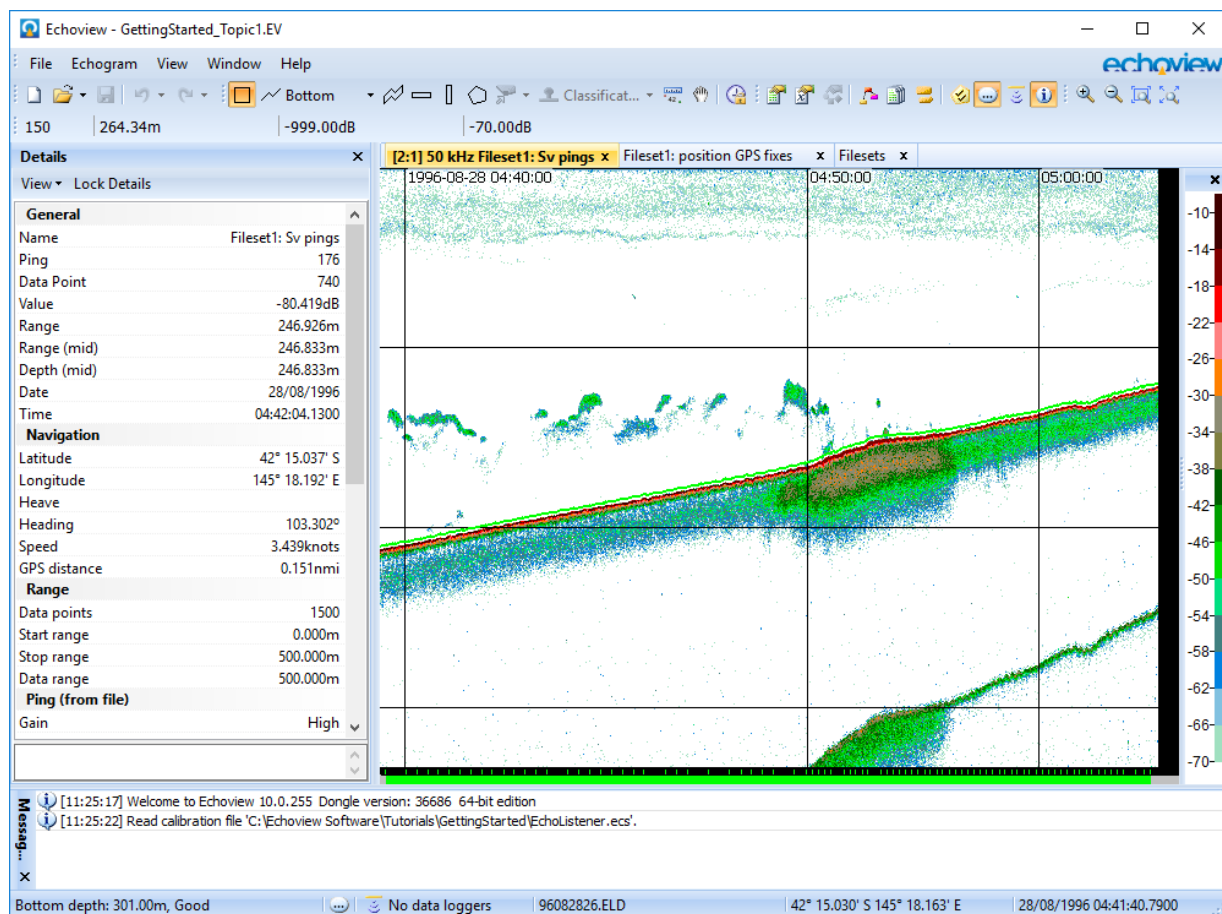

Figure 1. Echoview displaying an echogram from the `GettingStarted_Topic1.EV` file. The Details and Message dialog boxes are also displayed.
3. Browse to `GettingStarted_Topic1.EV`, click **Open**. Echoview displays an echogram window like the one shown in Figure 1.